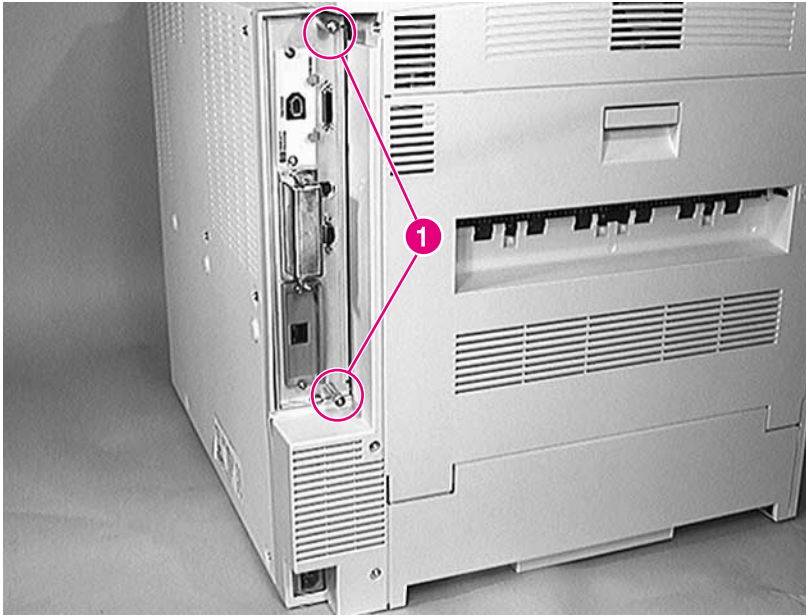

Figure 6-35 **Formatter Assembly**
- 2 Loosen the two captive screws (figure 6-35, callout 1), and slide the Formatter PCA out of the chassis.
- 1 Remove the Formatter Assembly (see figure 6-35 on page 301).
- Formatter Assembly (see figure 6-35 on page 301)